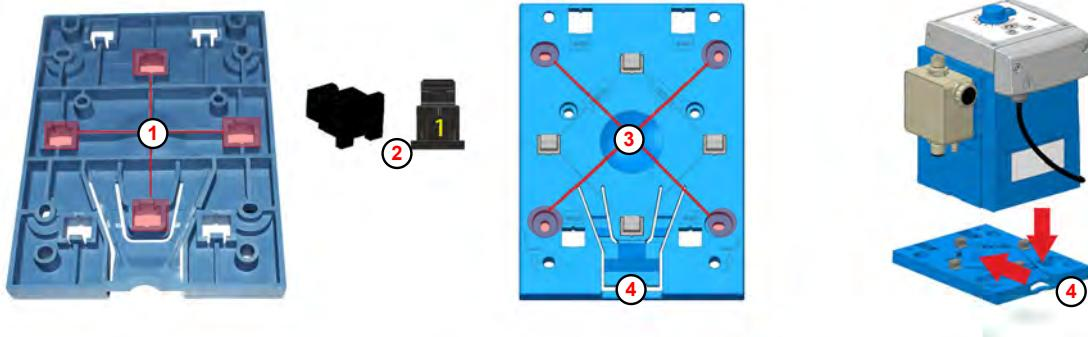

Fig. 4: Preparations for table mounting
*On the underside of the mounting plate, the boreholes for countertop mounting (Fig. 4, ①) are marked with a 1.*